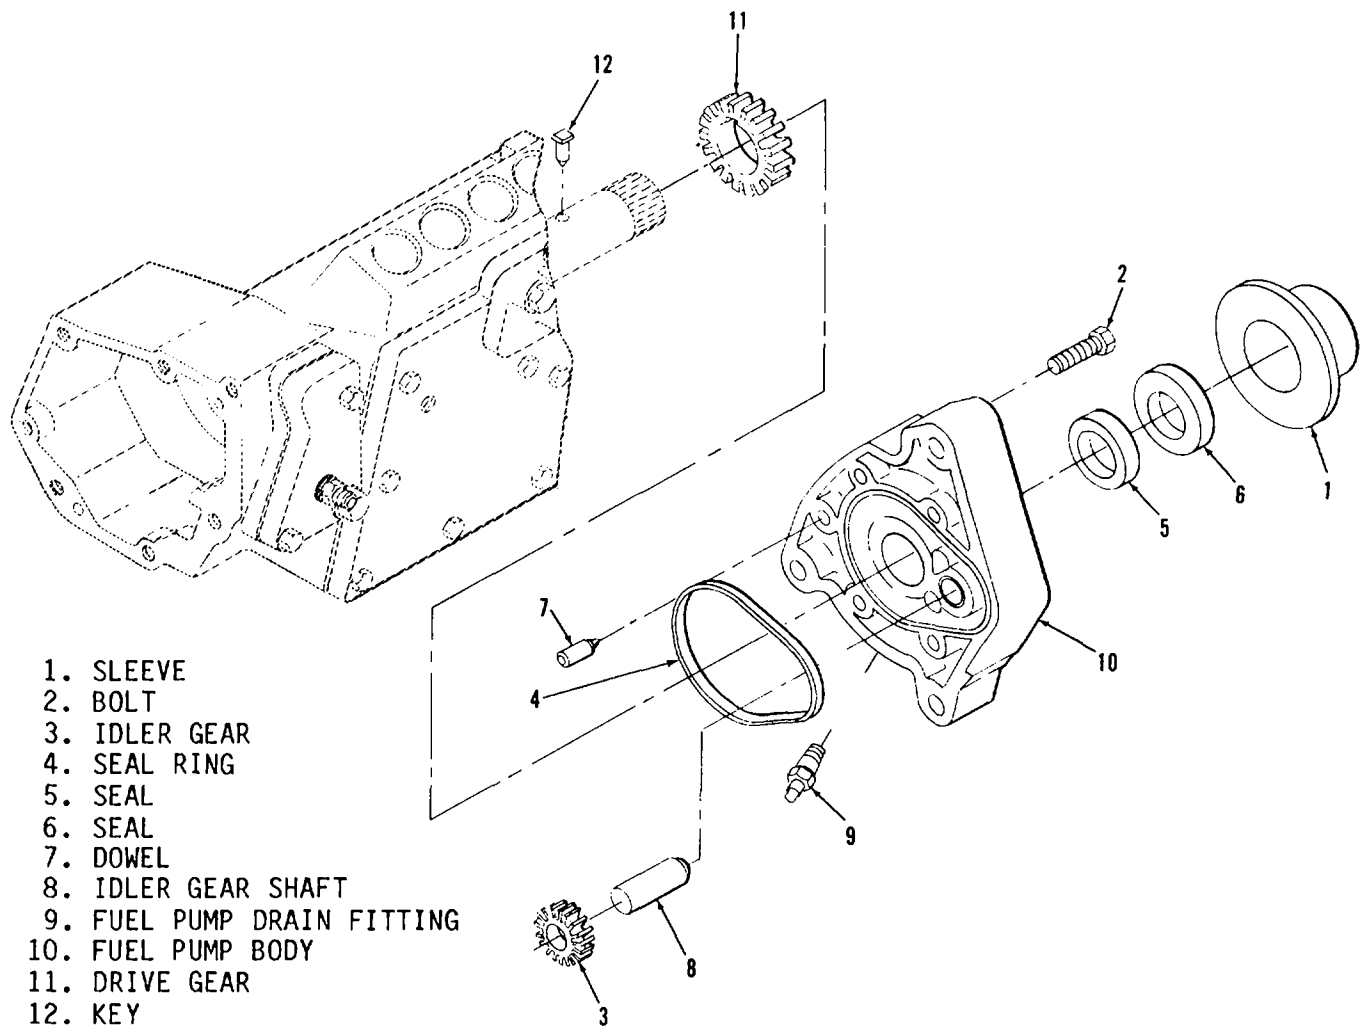

Figure 7-5. Fuel Pump, Exploded View
d. Install a 3/4-16 x 120 bolt (Special Tool 2H3740, refer to table 2-1) into threads of sleeve (1, figure 7-5). Tighten the bolt until sleeve (1) can be removed. Do not strike bolt or sleeve.
e. Remove bolts (2) which secure the fuel pump body (10) to the fuel injection pump housing. Remove the fuel pump body from the fuel injection pump housing.
f. Remove idler gear (3), seal ring (4), and seals (5 and 6).
g. Remove dowel (7), shaft (8), and fuel pump drain fitting (9) from the fuel pump body (10).
h. Remove drive gear (11) and key (12) from fuel injection pump camshaft.
- a. Install shaft (8, figure 7-5) and dowel (7) into fuel pump body (10).
- b. Install seal (6) into fuel pump body (10) using a driver. Ensure that lip of seal is toward pump gears (inward).
- c. Install seal (5) into fuel pump body (10) using a driver. Ensure that lip of seal is away from pump gears (outward).
- d. Install seal ring (4) and idler gear (3).
- e. Install the key (12) and drive gear (11) onto the fuel injection pump camshaft.
- f. Install the fuel pump body (10) onto housing and secure with bolts (2).
- g. Position sleeve (1) onto fuel injection pump camshaft.